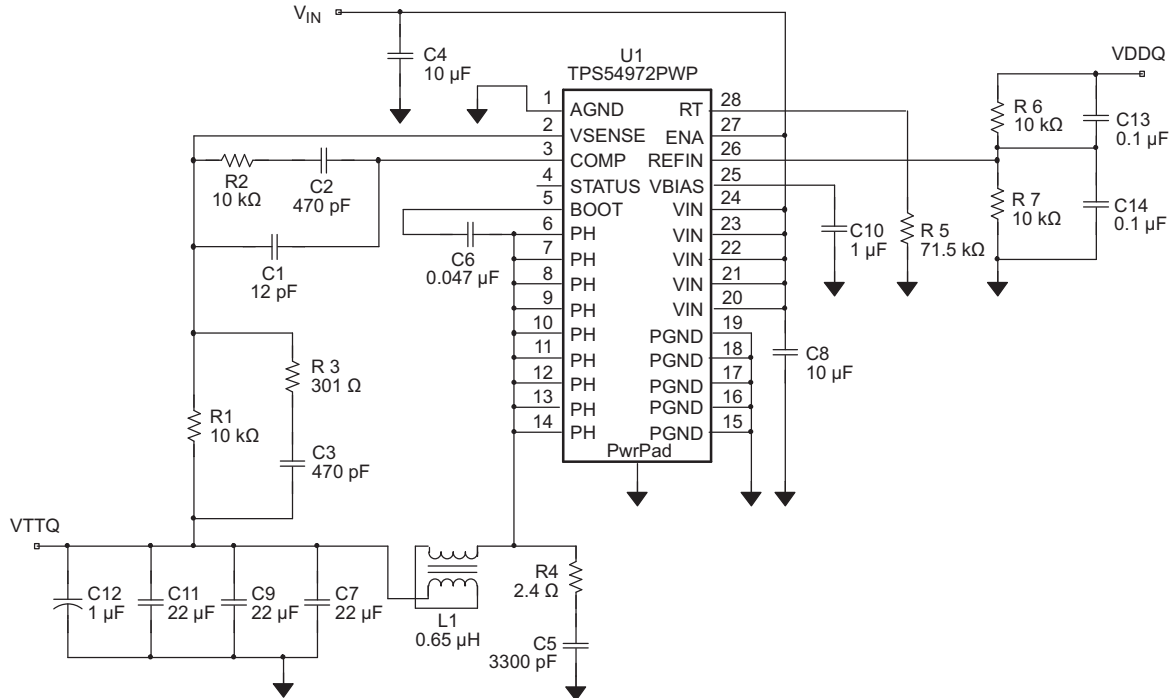

Figure 8. Application Circuit
- (1) Specified by design
(2) Static resistive loads only
(3) Specified by the circuit used in Figure 8
**Figure 8** shows the schematic diagram for a typical TPS54972 application. The TPS54972 (U1) can provide up to 9 A of output current at a nominal output voltage of one half of  $V_{(DDQ)}$  (typically 1.25 V). For proper operation, the PowerPAD underneath the integrated circuit TPS54972 is soldered directly to the printed-circuit board.